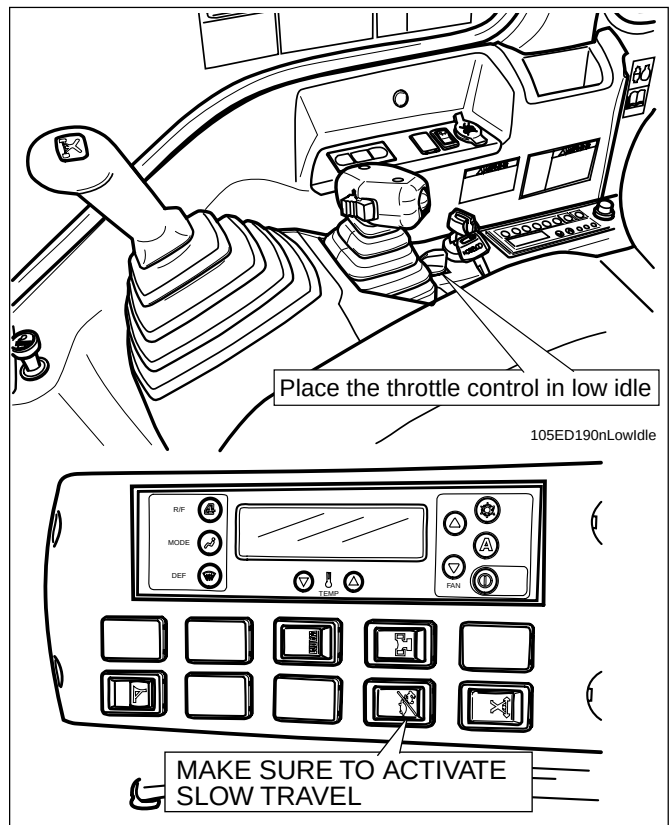

FIGURE 5.3A
- Place travel speed select switch on travel lever in 1st (🐢) speed position and move throttle control to the “LOW” idle position. See Figure 5.3A.